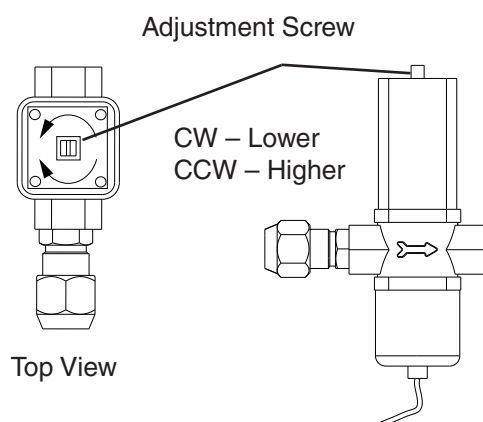

Fig. 6
- 2) 5 min. after a freeze cycle starts, confirm that the thermometer reads 104°F to 115°F (40°C to 46°C). If it does not, rotate the adjustment screw by using a flat blade screwdriver until the temperature is in the proper range (rotate counterclockwise to raise temperature or clockwise to lower temperature). See Fig. 6. Next, check that the reference pressure is in the range indicated in "VIII.A. Specification and Performance Data." If it is not in the proper range, verify the refrigerant charge.